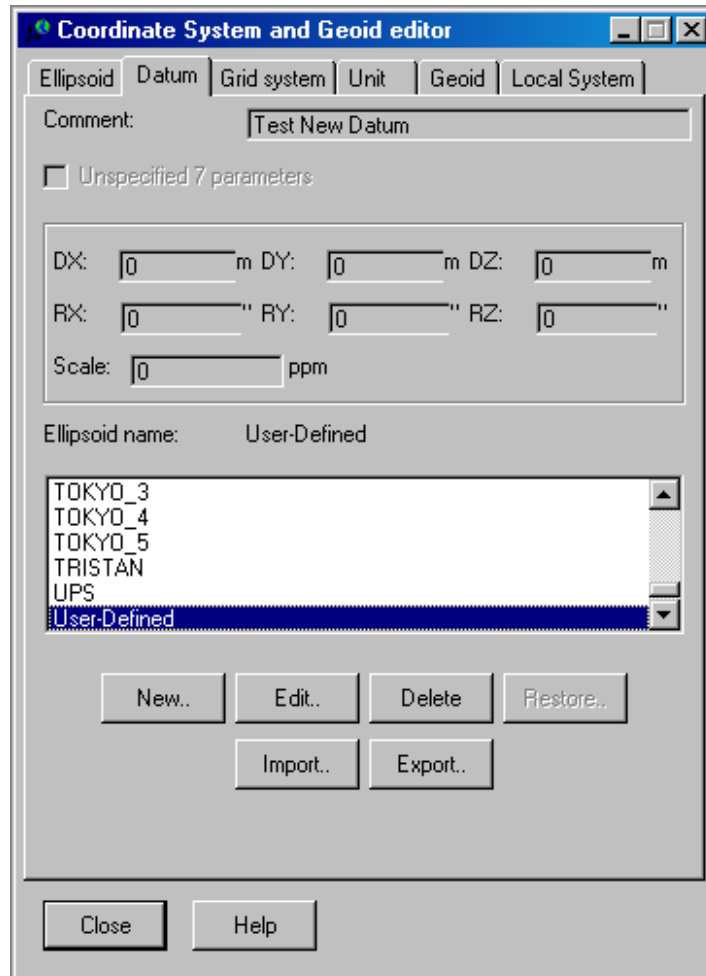

Figure 3-3
- **'Edit...'** button is used to edit a user-defined datum (see Figure 3-3).